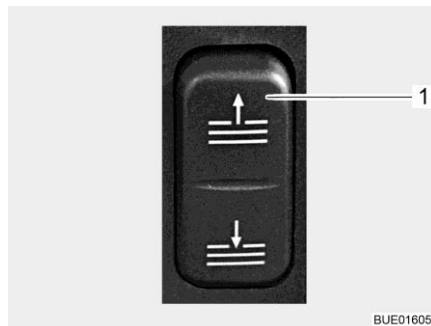

Fig. 20 Switch for windscreen shade
- Open the windscreen shade. To do this, press the top half of the switch (Fig. 20,1).